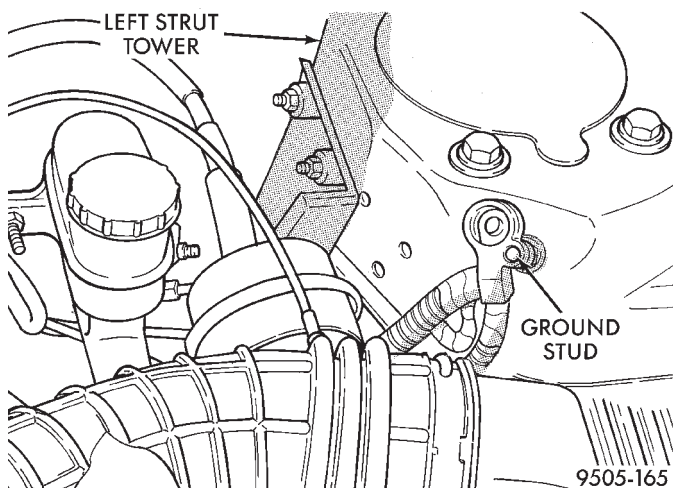

Fig. 92 Correctly Isolated Remote Ground Cable
(2) Correctly isolate remote ground cable when servicing vehicle by installing the ground cable insulator on the strut tower ground stud as shown (Fig. 92). **This will prevent accidental grounding of the remote ground cable.**